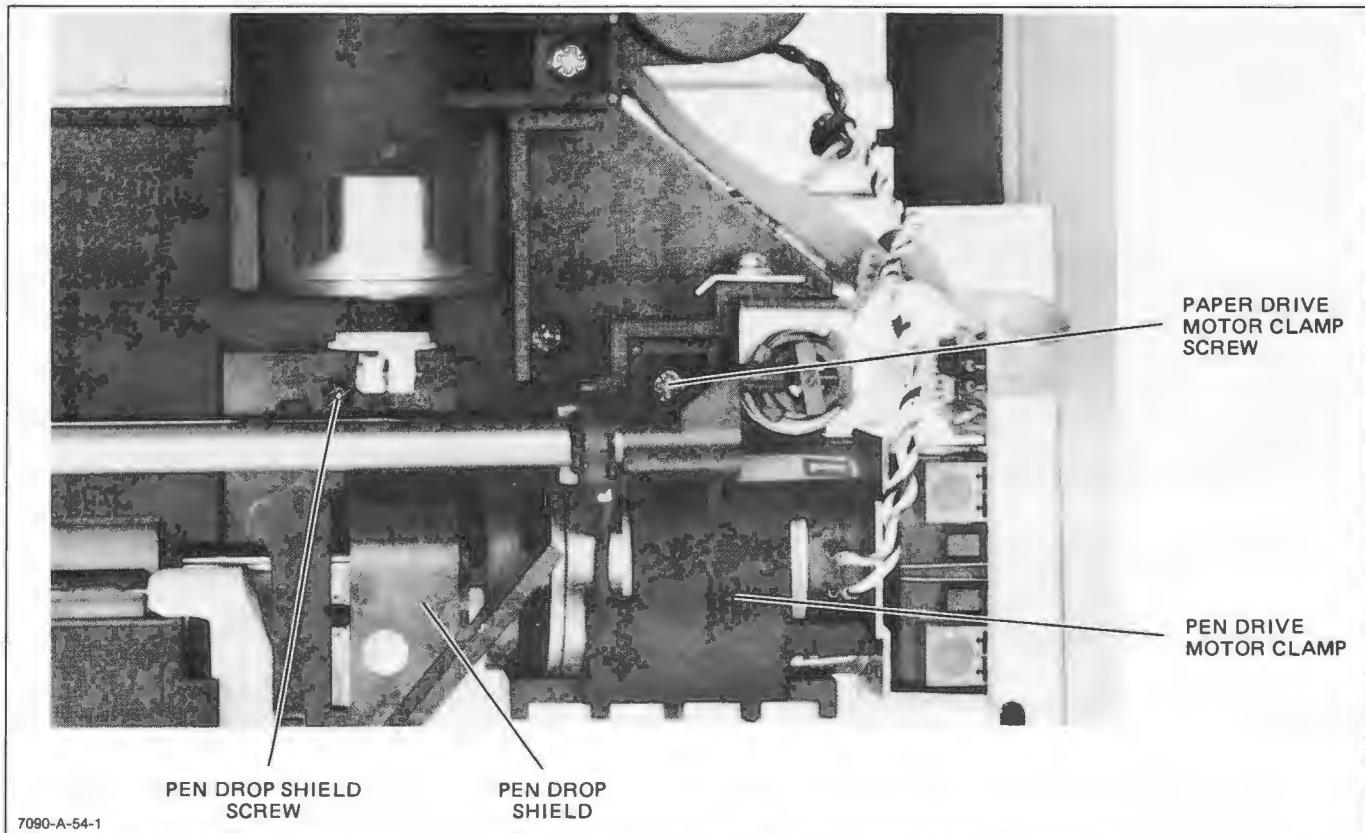

Figure 8-18. Paper Drive Motor Clamp and Pen Drop Shield
- c. Remove the pen drop shield. See Figure 8-18.
- d. Loosen the motor clamp and remove the motor from its mounting. See Figure 8-18.